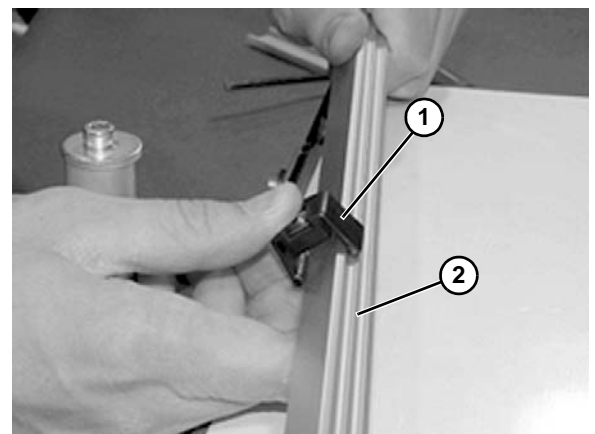

Figure 39
4. Snap clip (**Figure 39, item 1**) onto guide rail (**Figure 39, item 2**).